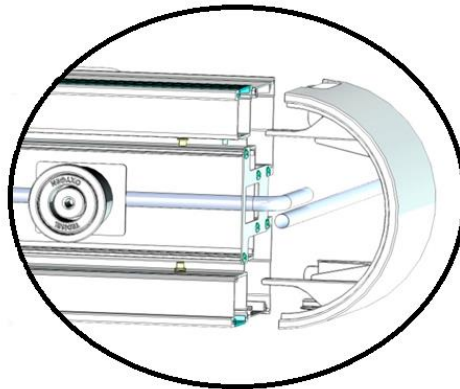

Fig.11 Medical gas and vacuum supply inlet
- Cut off the pipe ① from the equipment piping and the pipe ② corresponding to the gas circuit in question coming from the installation.
- Place the copper fitting (elbow) ③ in position joining the two pipes.
- Solder the 3 components as shown in the picture on the right in figure 11.